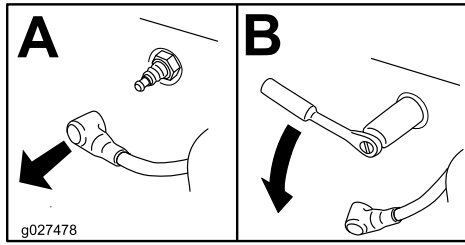

Figure 48
- Remove the spark plug (Figure 48).